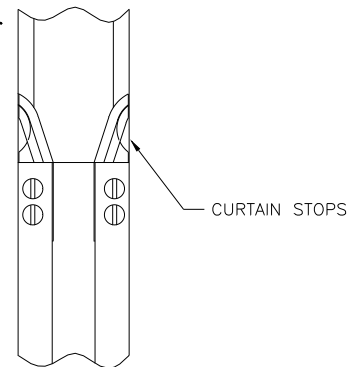

FIGURE 3
- STEP 6: Attach curtain stops. (See Figure 3)